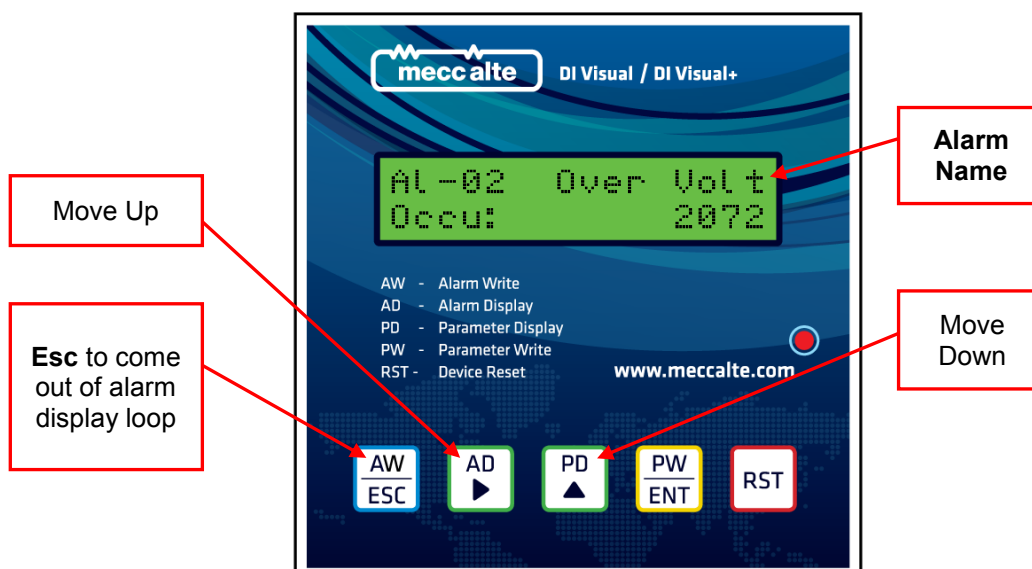

fig. 16
- 2) After successful pulling of the alarm values from DSR the first Alarm number and Occurrence will be displayed on the LCD as shown in Fig. 16 below.
- 3) To move to next values i.e. Last Event and Accumulator value, press  key. To see the previous alarm values press  key and to see next value press  key as shown in Fig. 16 above.
- 4) To come out of the Alarm display option press  key as shown in Fig. 16 above which will put the device again into continuous scanning process of Voltage, Frequency and Time.